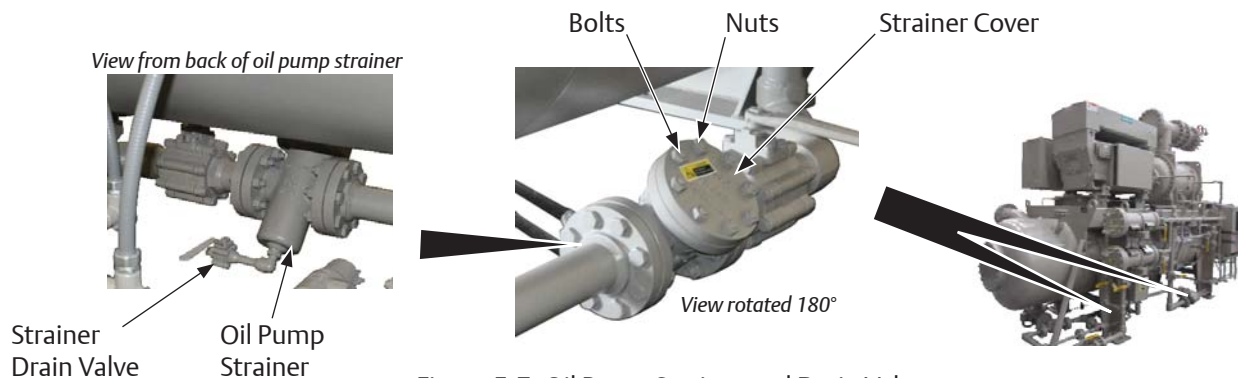

Figure 5-7. Oil Pump Strainer and Drain Valve
5. Open strainer drain valve and allow oil to completely drain, see Figure 5-7.